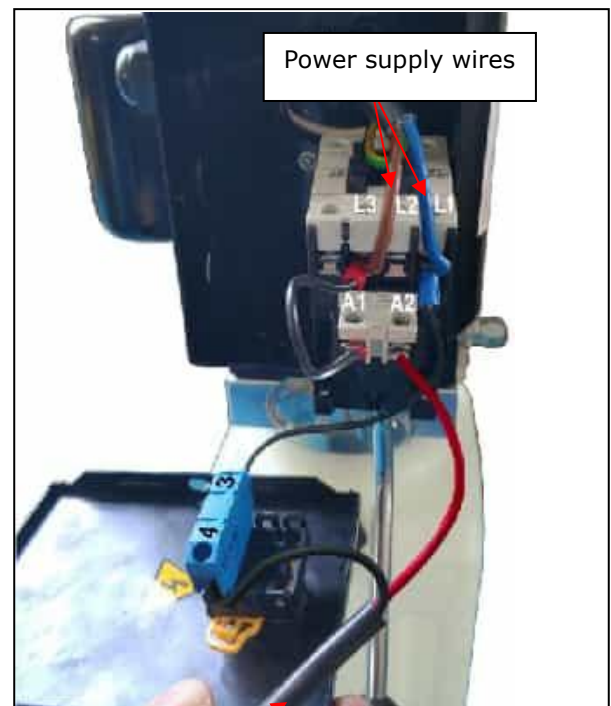
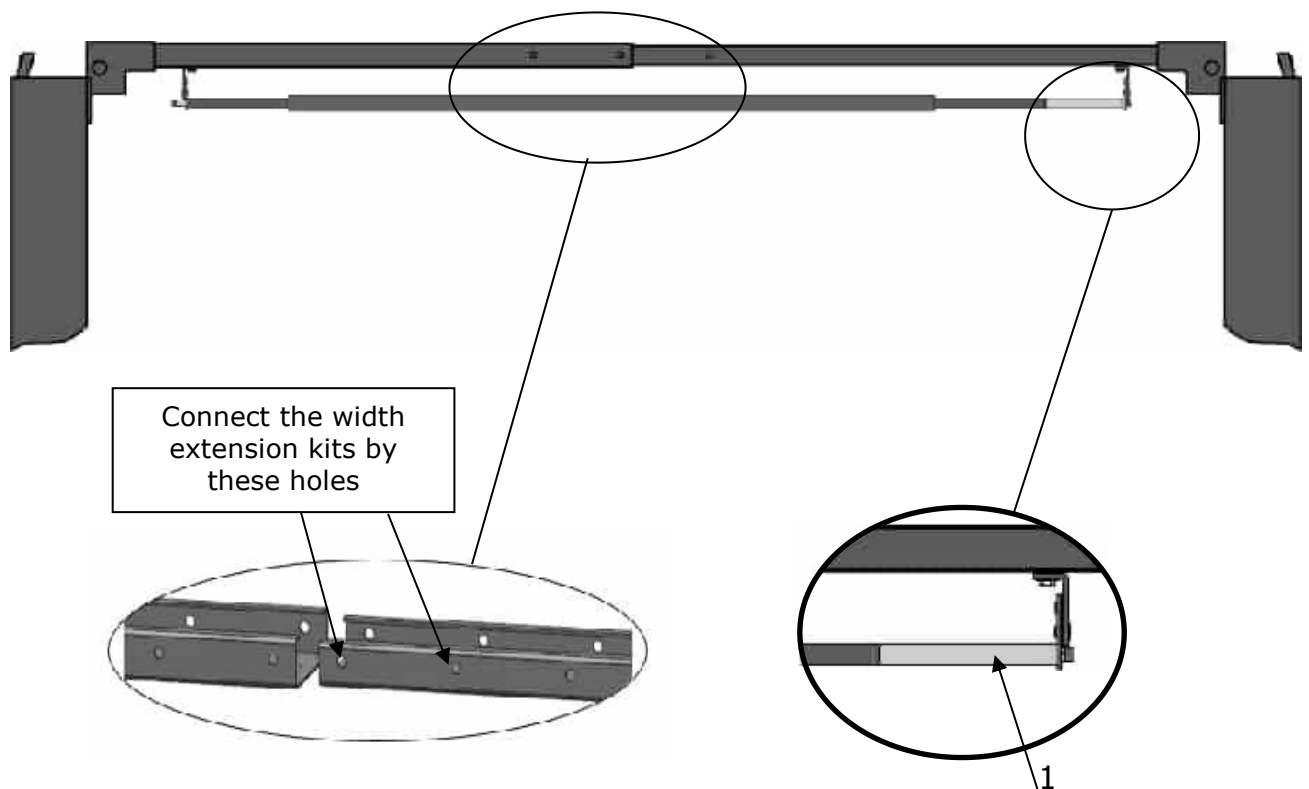

Fig. 45
Fig. 46
- Connecting limit switch wire: remove the short wire connecting terminal 4# of control button and A2 of AC contactor firstly (See Fig.45), then according to the wire number of the limit switch, connect them respectively to terminal 4# of control button and A2# of AC contactor. (See Fig. 46)
- 1. Install the limit switch control bar and top beam (See Fig. 46).**